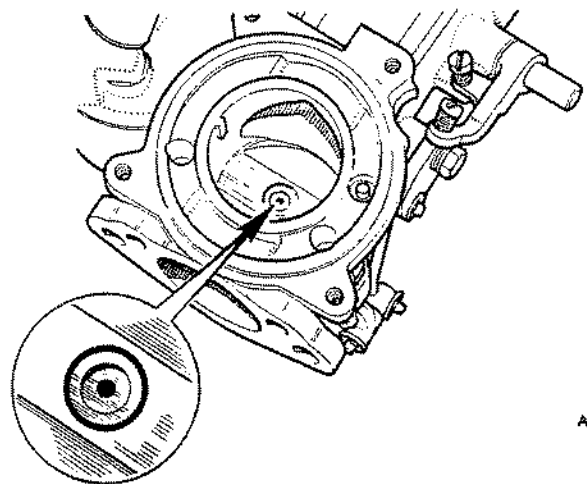

Fig. 8
- D. When the jet is correctly centred, see Fig. 8, it may appear offset from the centre of the jet bearing drilling.